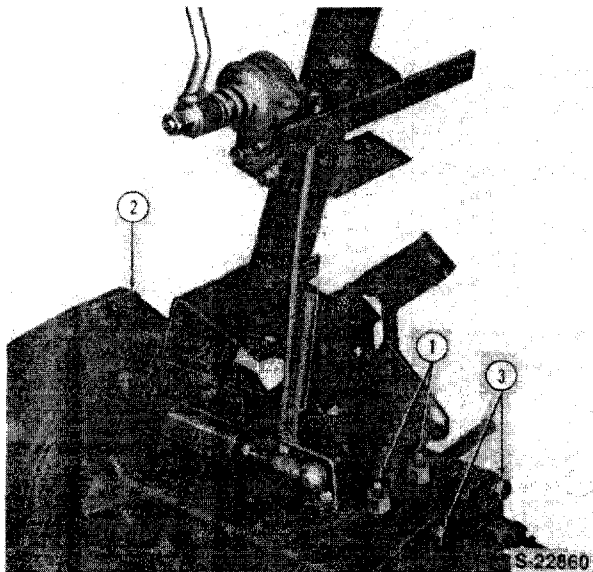

Figure 87
1. Remove the two test port adaptors (1), Figure 87.
3. Remove the clutch housing attaching bolts and remove the clutch housing, Figure 87.